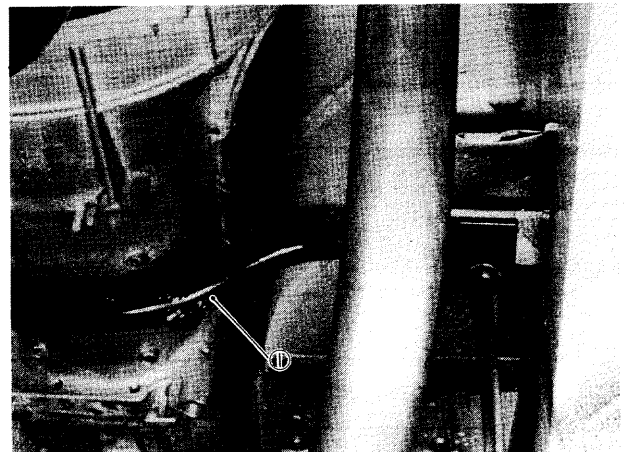

Fig. 13-2-4
- 13) Remove pipe ① as shown in Fig. 13-2-4.